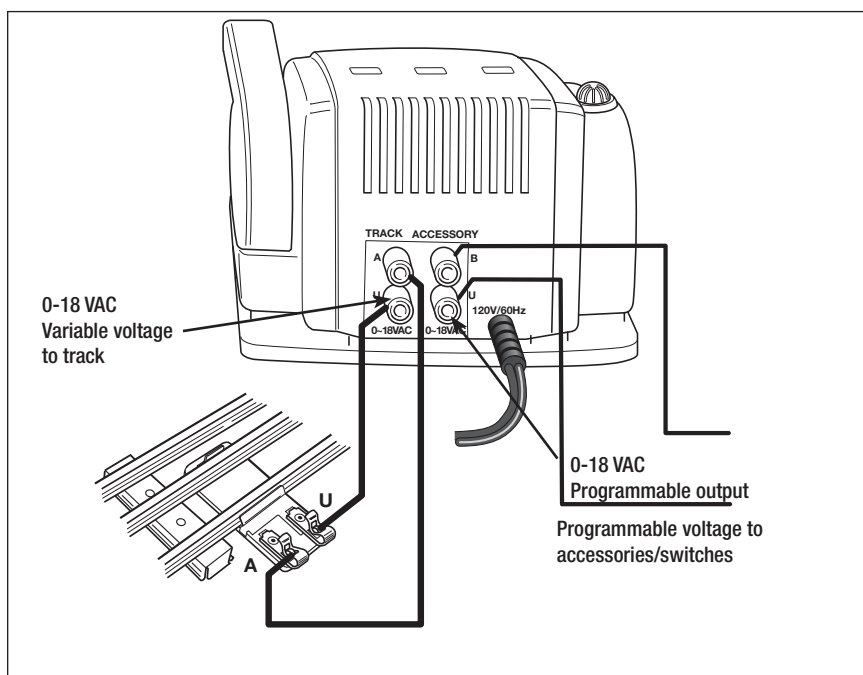

Figure 2. Controller connections
2. **Attach one wire to the Lockon spring clip terminal labeled “1” and connect it to the power terminal labeled “A”. All Controller connections are illustrated in Figure 2.**